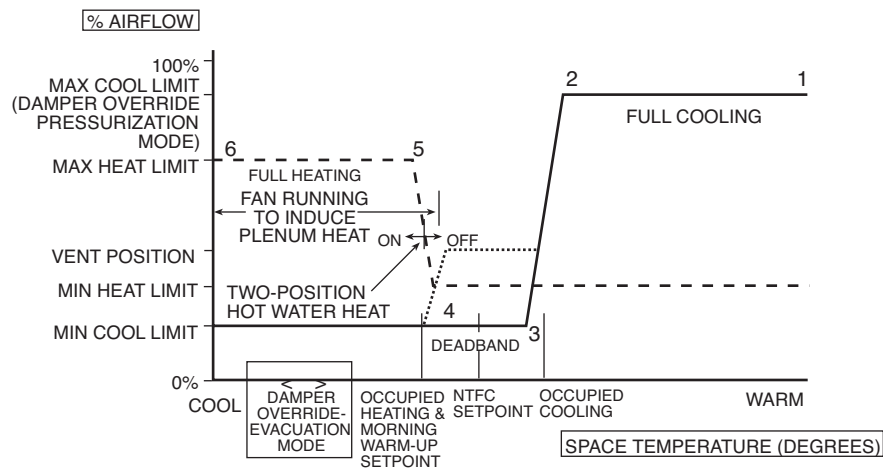

Figure 1 - Sequence of Operation for Parallel Fan Powered Air Terminal with Two-Position Hot Water or Steam Heat
A. Cooling: When the primary air source is providing cooling (as detected by the primary air sensor). Refer to numbers on flow diagram. See Fig. 1.